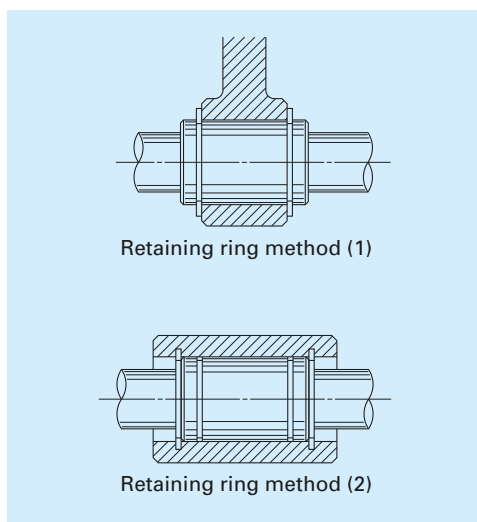

**Fig. 7** Installation example
**Fig. 7** is an installation example.